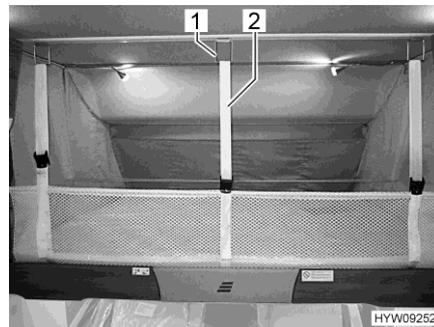

Fig. 71 Safety net (pull-down bed)
- Release retaining belts (Fig. 71,2) and place safety net underneath mattress.
Setting up: ■ Attach the retaining belts (Fig. 71,2) to the hooks (Fig. 71,1) on the ceiling.